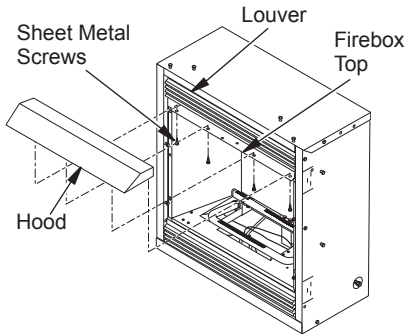

Figure 3 - Assembling Hood
5. Insert screws as shown in Figure 3. Tighten screws firmly.